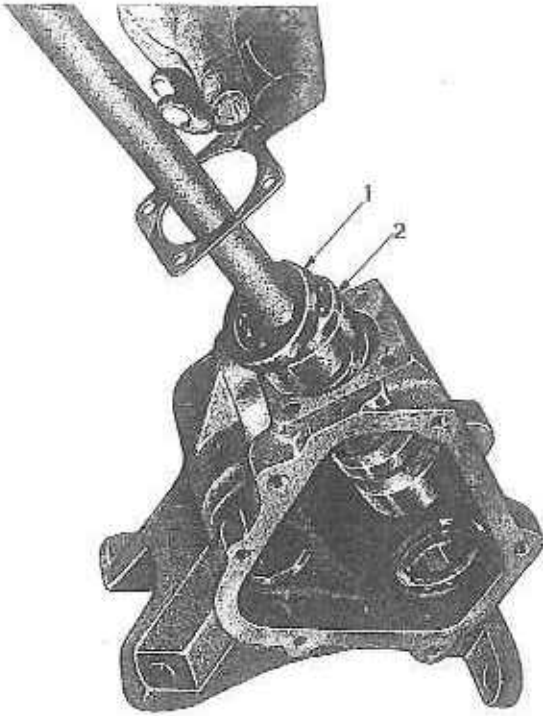

FIG 8
1. Refit the lower bearing cup (5) and lower bearing to the steering box.
2. (Fig. 8) Position the upper bearing (2) and upper bearing cup (1) onto the steering shaft.